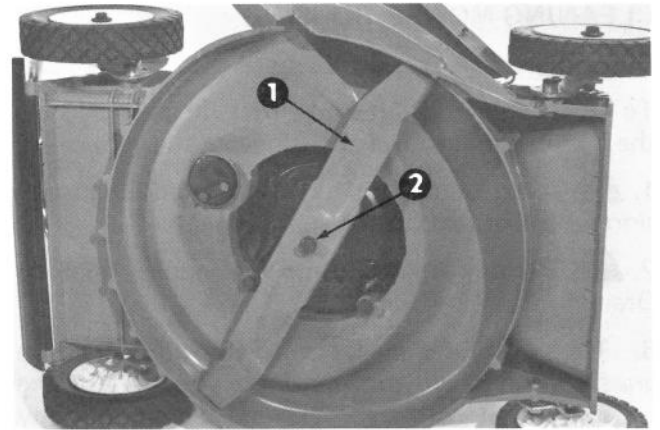

Figure 26
3. Tip mower on its left side. Grasp end of blade using a rag or thickly padded glove. Remove blade using a wrench, lockwasher, and blade bolt (Fig. 26).